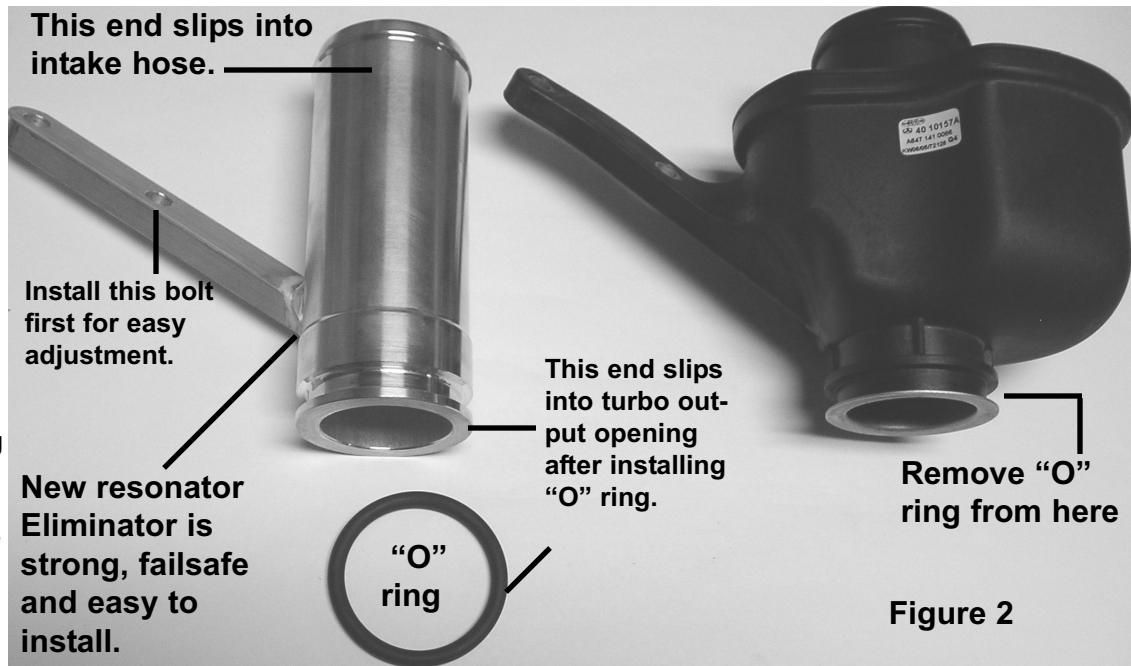

Figure 2
Step 5.) Using a small flat blade screwdriver or your fingers, GENTLY lift the "O" ring off the "input" end of the resonator. (**See Figure 2**) It comes off very easily. You will be fitting this same "O" ring onto your new resonator eliminator so treat it with care and keep it clean.
Step 6.) Place the "O" ring onto the input end of your new Resonator Eliminator, (which looks like the input end of the resonator canister from which you just removed the "O" ring). (**see Figure 2**) It may help to place a small drop of engine oil from the dipstick onto the outside of the "O" ring to help ease the "O" ring end of the eliminator back into position inside the turbo.